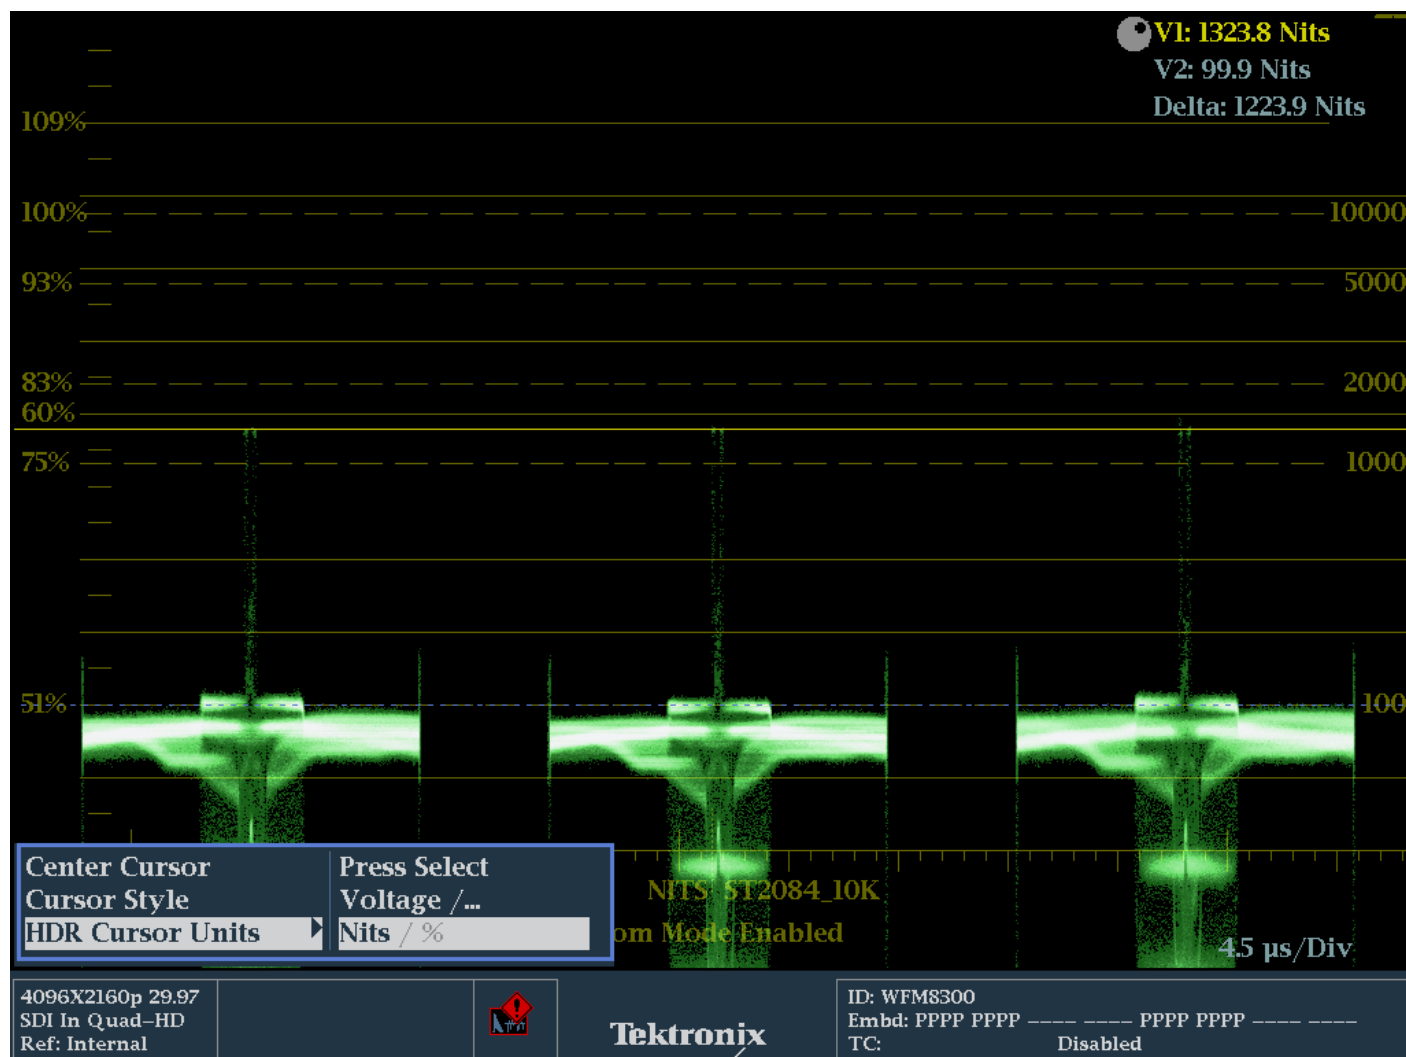

FIGURE 8. Nits cursors used in ST2084 10K HDR graticule.
When in HDR/HDR Full mode the user can choose between Nits and Percentage cursors. Using the Nits cursor can be useful to determine the maximum signal level for the specular highlights as shown in this example in Figure 8.
2. Press and hold the **Cursor** button to bring up the menu as shown in Figure 8.